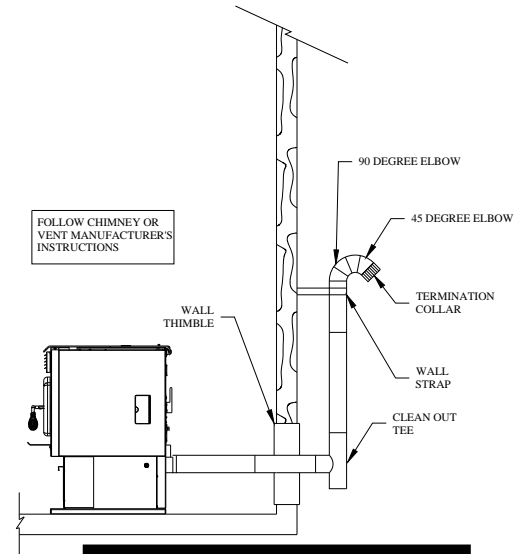

FIGURE 7
A. HORIZONTALLY THROUGH WALL (refer to Figure 7, 8, or 10)